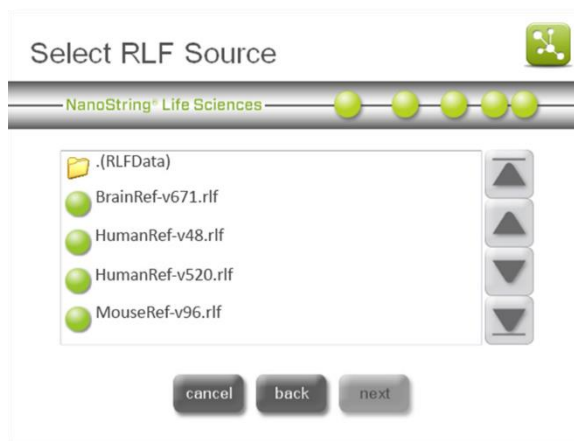

Figure 52: The 'Select RLF Source' screen
4. The 'Select RLF Source' screen will appear (**Figure 52**).